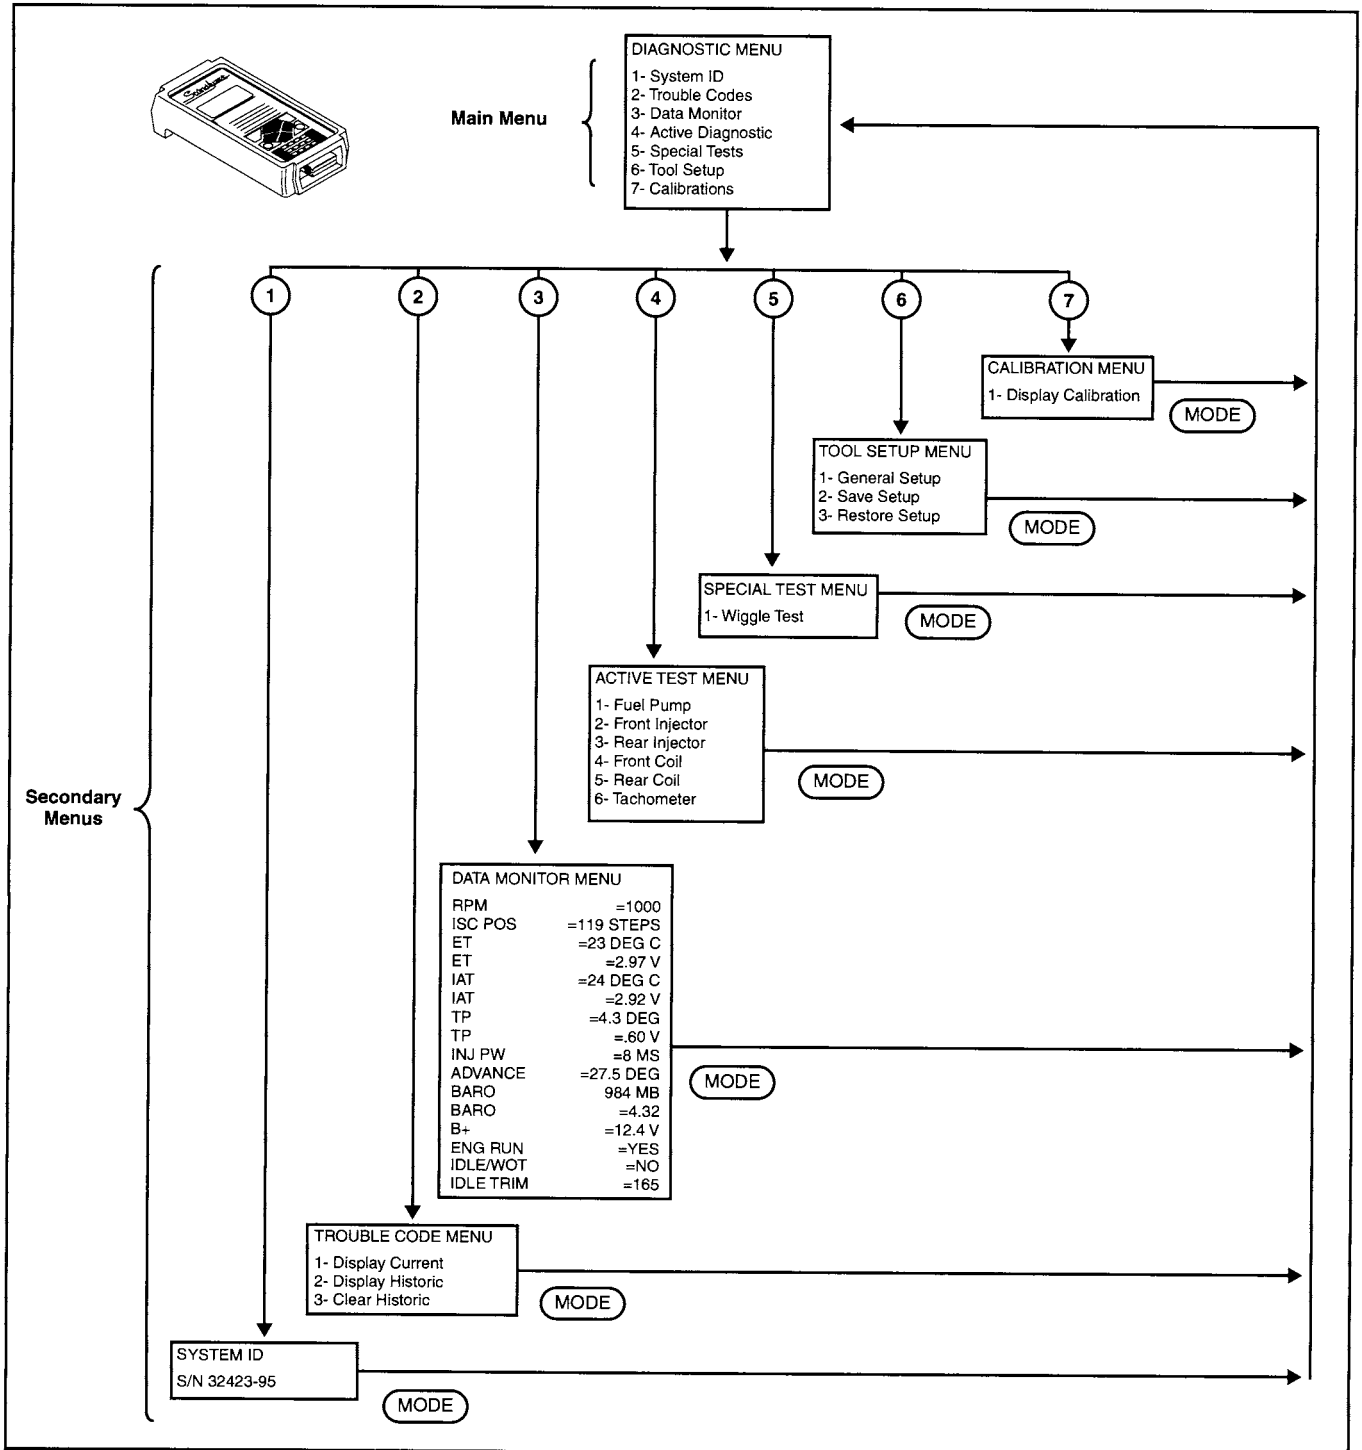

Figure 94. Scana-lyzer Menu Selections
- Insert the diagnostic application cartridge into the Scana-lyzer. During the next few seconds, the Scana-lyzer sequences through a series of screens that reflect a power-on self test, the system copyright, and then an attempt at communications with the ECM. Once commu-nications is established with the ECM, the Diagnostic Menu appears. See Figure 94.